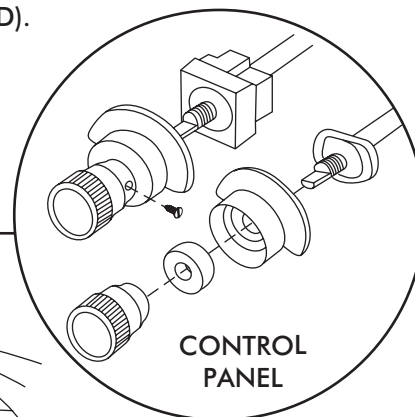

FIGURE 2a
- ☐ REMOVE OEM CENTER LOUVER ASSEMBLY WITH CONTROL, BEZEL (RETAIN) SEE FIGURE 2a. (REFER TO CONTROL PANEL INSTRUCTIONS FOR INSTALLATION)